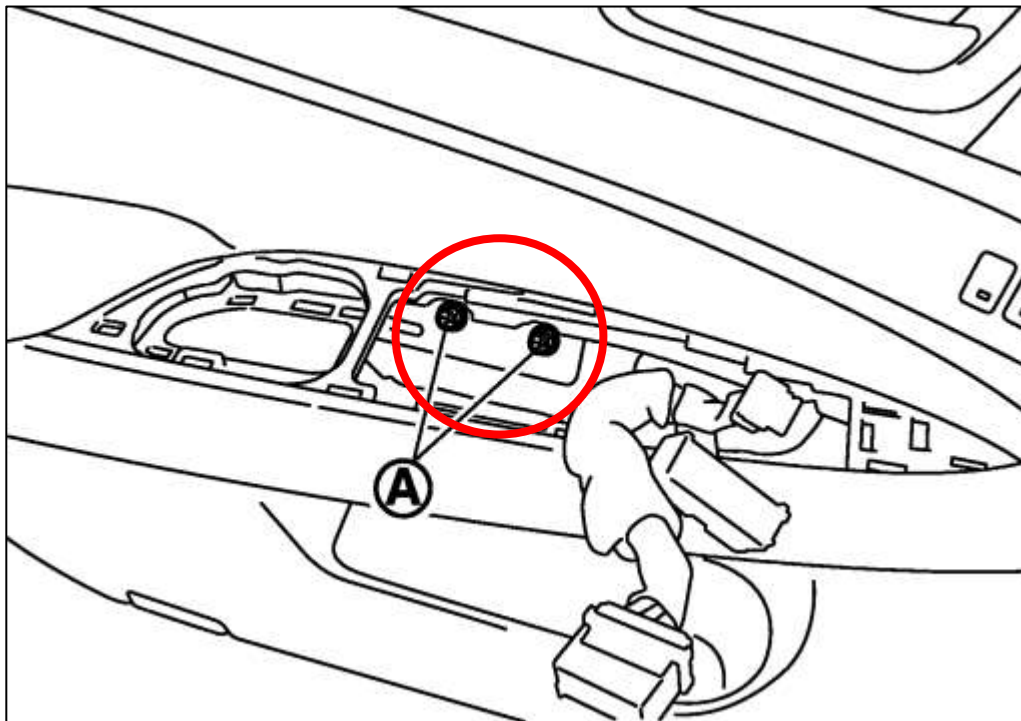

Figure 57
5. Remove the (2) two Bolts under the Door Control Panel. *Figure 57.*